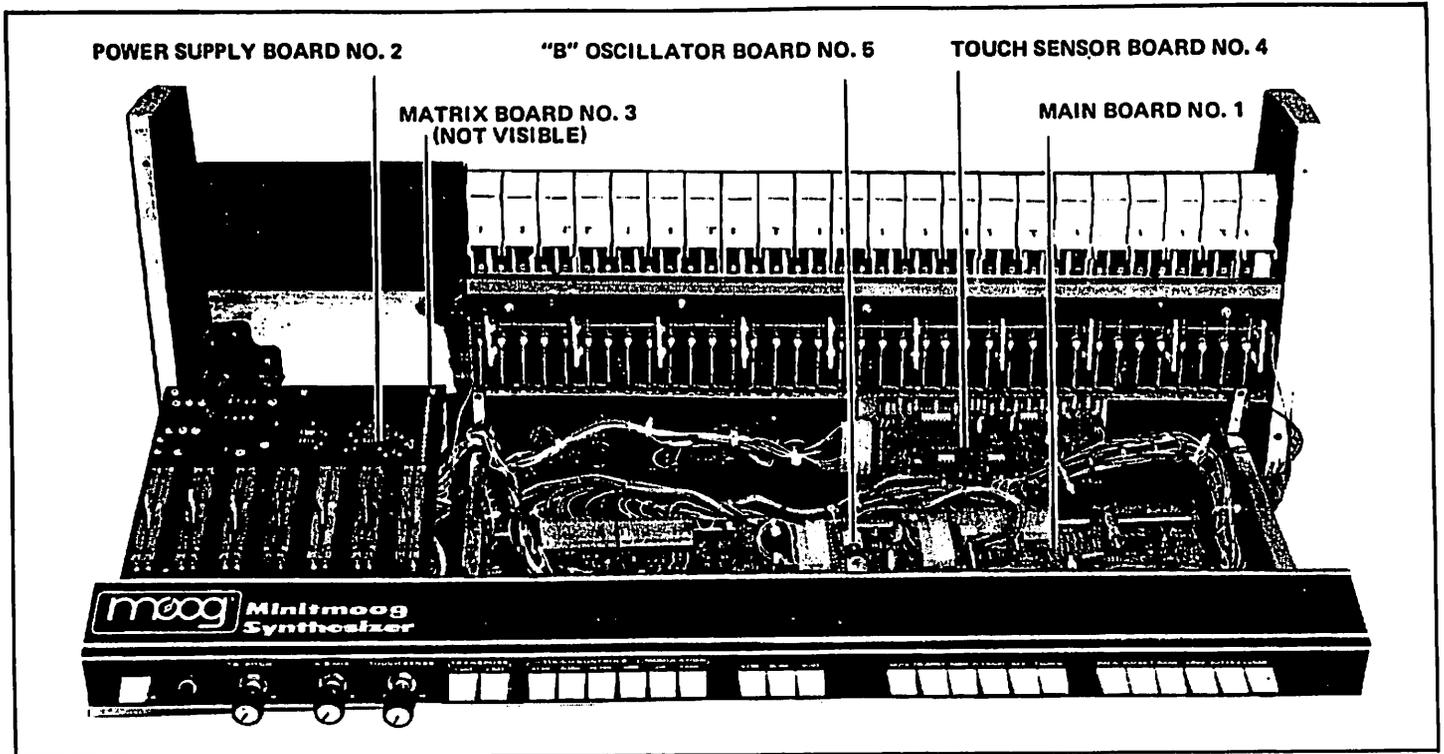

FIGURE 3-1 MINITMOOG PRINTED CIRCUIT BOARD LOCATIONS (INSIDE VIEW)
b) Stand instrument on one end and remove three screws securing large bottom cover (Figure 3-1) to instrument using a medium sized Phillips head screwdriver and remove cover.
a) Main Board No. 1 – Disconnect 5 electrical connectors, depress levers on 6 fastening devices and remove board from bottom cover. (See Figure 3-1.)